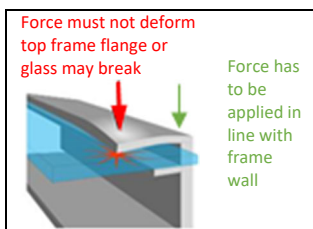

Figure 1a: Clamp Force Locations
- 2) **Pressure Clamps or Clips:** Mount the module with the opposite clips on the longer and/or shorter side of the frame of the module. The clips allowed location should be according to Appendix. Installers should ensure the clamps are of sufficient strength to allow for the maximum design pressure of the module. Clips and clamps are not provided by Maxeon. Clamps must apply force collinear with the 'wall' of the module frame and not only to the top flange. Clamps shall not apply excessive force to the top frame, warp the top flange, or contact the glass—these practices void the module warranty and risk glass breakage. Figure 1a illustrates locations for top frame clamp force. Avoid clamping within 50mm of module corners to reduce risk of frame corner deflection and glass breakage. When clamping to the module frame, torque should never exceed 15 N.m to reduce chances of frame deformation, if the clamp datasheets show a specific torque value which is lower than 15 Nm the installer should follow the torque value whichever is more stringent. A calibrated torque wrench must be used. Mounting systems should be evaluated for compatibility before installing specially when the system is not using Clamps or clips. Please contact Maxeon for the approval of the use of non-standard pressure clamps or clips where torque values are higher than otherwise stated.